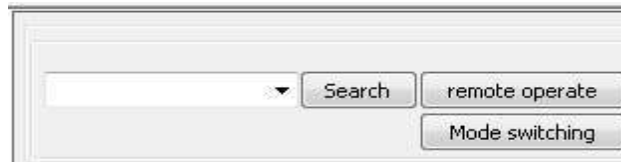

Figure 5-2
**1) Search:** Click the search button. After a few seconds, the software will automatically search to the thermal imaging camera, and show the IP address. As shown in the figure 5-2.